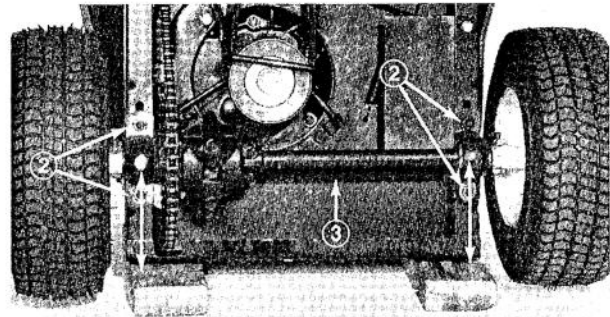

Figure 40
6. Shift transmission into 1st gear and engage the parking brake. Tip rider onto its rear end so chassis is on top of 2" x 4" blocks (Fig. 40). Wheels must be off the floor so axle can be moved.
7. Loosen four flange nuts securing pillow blocks w/differential axle to the rider frame (Fig. 40). Slide differential axle in proper direction to get correct chain deflection; then tighten flange nuts.
8. Since differential axle must be parallel to rear of chassis, measure distance from center of pillow blocks to rear of chassis (Fig. 40). Difference between the two measurements must not exceed